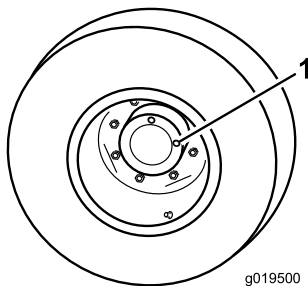

Figure 66
1. With machine on level surface, position the wheel so one check plug (Figure 66) is at the 12 o'clock position and the other is at 3 o'clock position.
1. Check plug (2)
2. Remove the plug at the 3 o'clock position (Figure 66). Oil level should be at the bottom of the check plug hole.